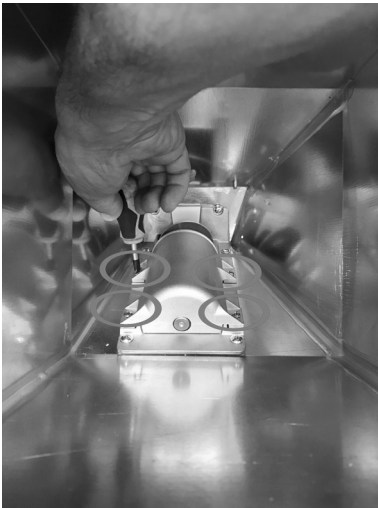

Fig. 78 - Screw removal
- Enter the tank and loosen the 4 screws of the feed screw coque (see **Fig. 78**).